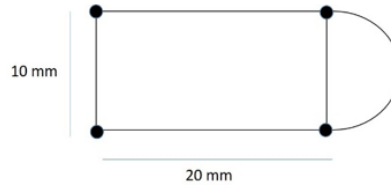

Figure 4
- (b) Determine the shear flow distribution in the idealized multi-cell section shown in Figure 4, subjected to pure torque = 100 kNm. The thickness of the section, $t = 2 \text{ mm}$, is same throughout. Take $G = 27 \text{ GPa}$, Area of each boom = 100 mm^2 . [7M]